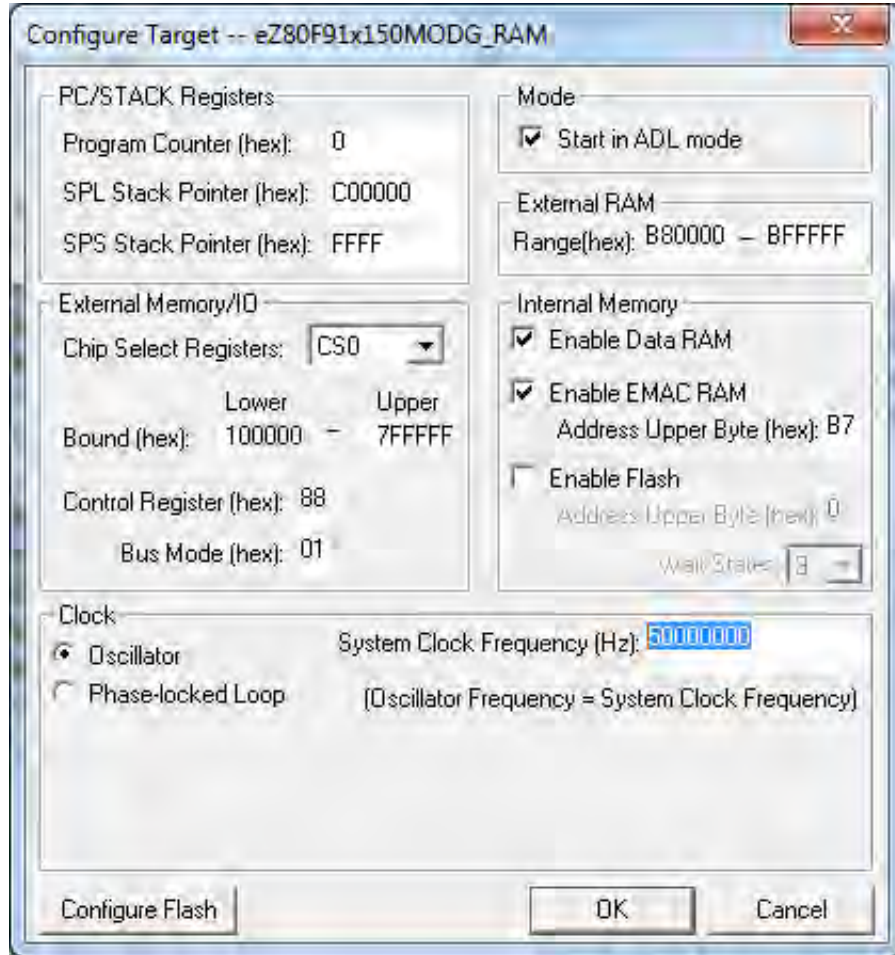

Figure 2. RAM Build Configuration: Default Settings
3. Click the **Setup** button. The Configure Target dialog will appear, as shown in Figure 2, which presents the default settings for the eZ80F91x150MODG_RAM ZTGT file. If you have not modified the contents of the eZ80F91x150MODG_RAM file, then you should see the values in Figure 2 after clicking the Setup button. Verify that your settings match the values shown in this figure.